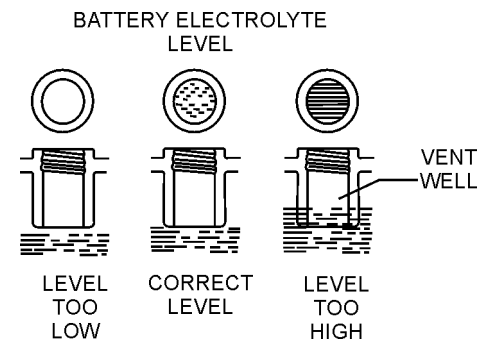

Figure 14. Battery Electrolyte Level
1. Make sure each **electrolyte** level (Figure 14) is to the bottom of the **vent well**. If necessary add **distilled** water in a well-ventilated area.